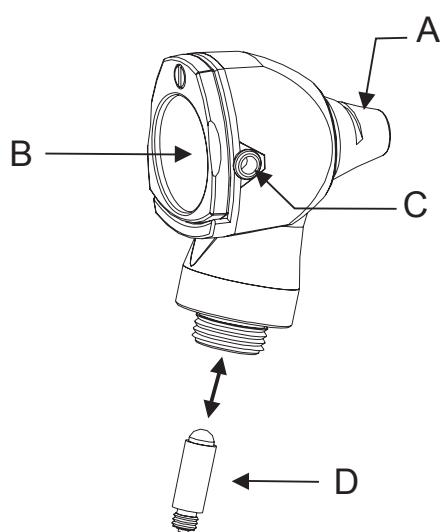

Fig.2
With the Otoscope, first unlock the head from the handle and pull the lamp (D) downwards as in Fig.2. Push in the new lamp.